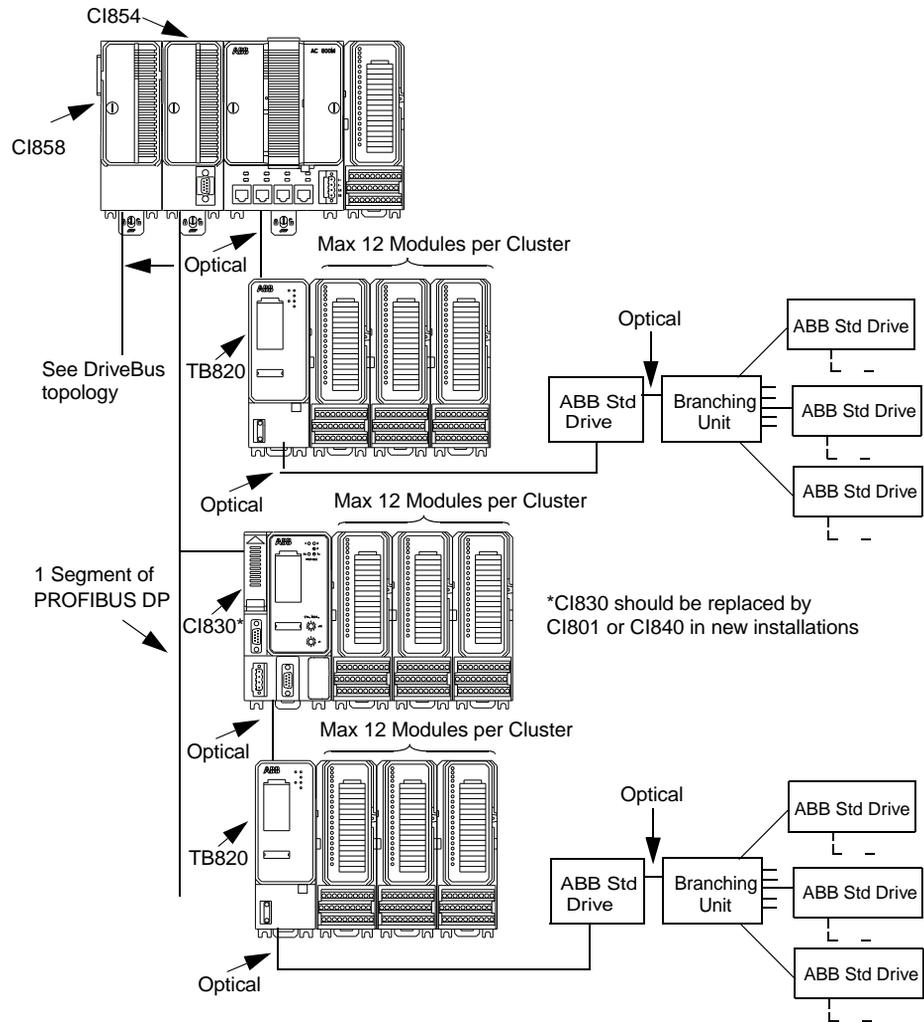
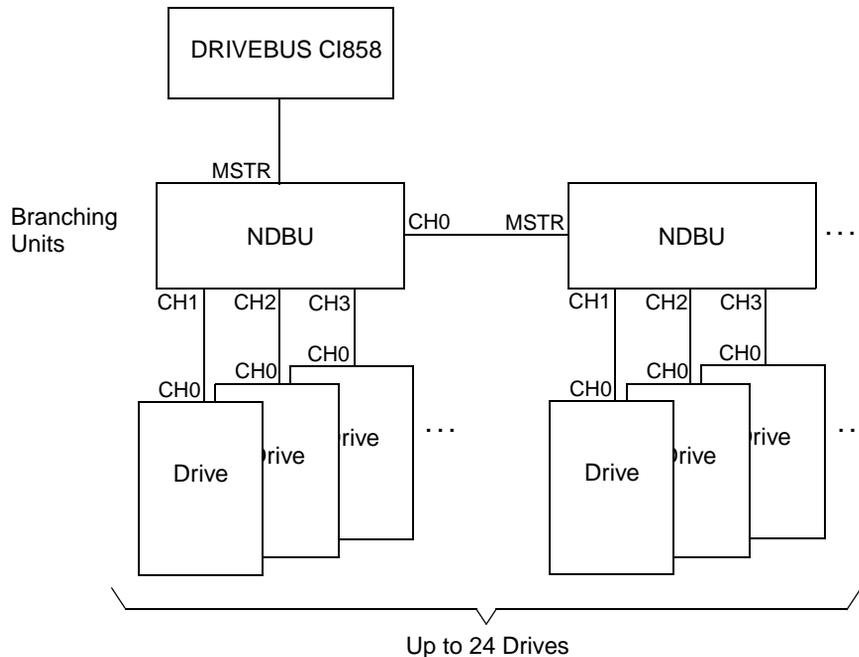

Figure 2.10: Example of Connection of ABB Drives in Single CPU Configuration
Figure 2.11: DriveBus Topology
In single CPU configuration, ABB Drives can be connected to the processor unit via the optical ModuleBus. See Figure 2.10 on page 41. The number of ABB Drives which can be connected to the optical ModuleBus, can be described by the following equation:
In single and redundant CPU configuration, ABB Drives can be connected via PROFIBUS DP and CI801. See Figure 2.10 on page 41. Only Standard Drives can be connected to CI801. Fourteen (14) Standard Drives can be connected to each CI801 if there are no I/O units connected. For the number of Drives that can be connected to the same CI801, when both I/O units (TB820) and Standard Drives are connected, refer to documentation about FCI for PROFIBUS DP.
For information about Branching Unit (See Figure 2.10 on page 41) see ABB Drive System documentation.
ABB drives can be connected to the AC 800M via the CI858 unit, see Figure 2.10 on page 41 and Figure 2.11 on page 42. The drive interface can be used for controlling up to 24 drives or inverter units.
Connection of multiple drives requires the use of a branching unit, which enables the construction of a logical bus with physical star topology, see Figure 2.11 on page 42. The branching units can be chained.
For information about Branching Unit (Figure 2.11 on page 42) see ABB Drive System documentation.
The schematic figures, figure 2.10, and figure 2.11, with examples of I/O interconnections, do not show the placement of the connectors.